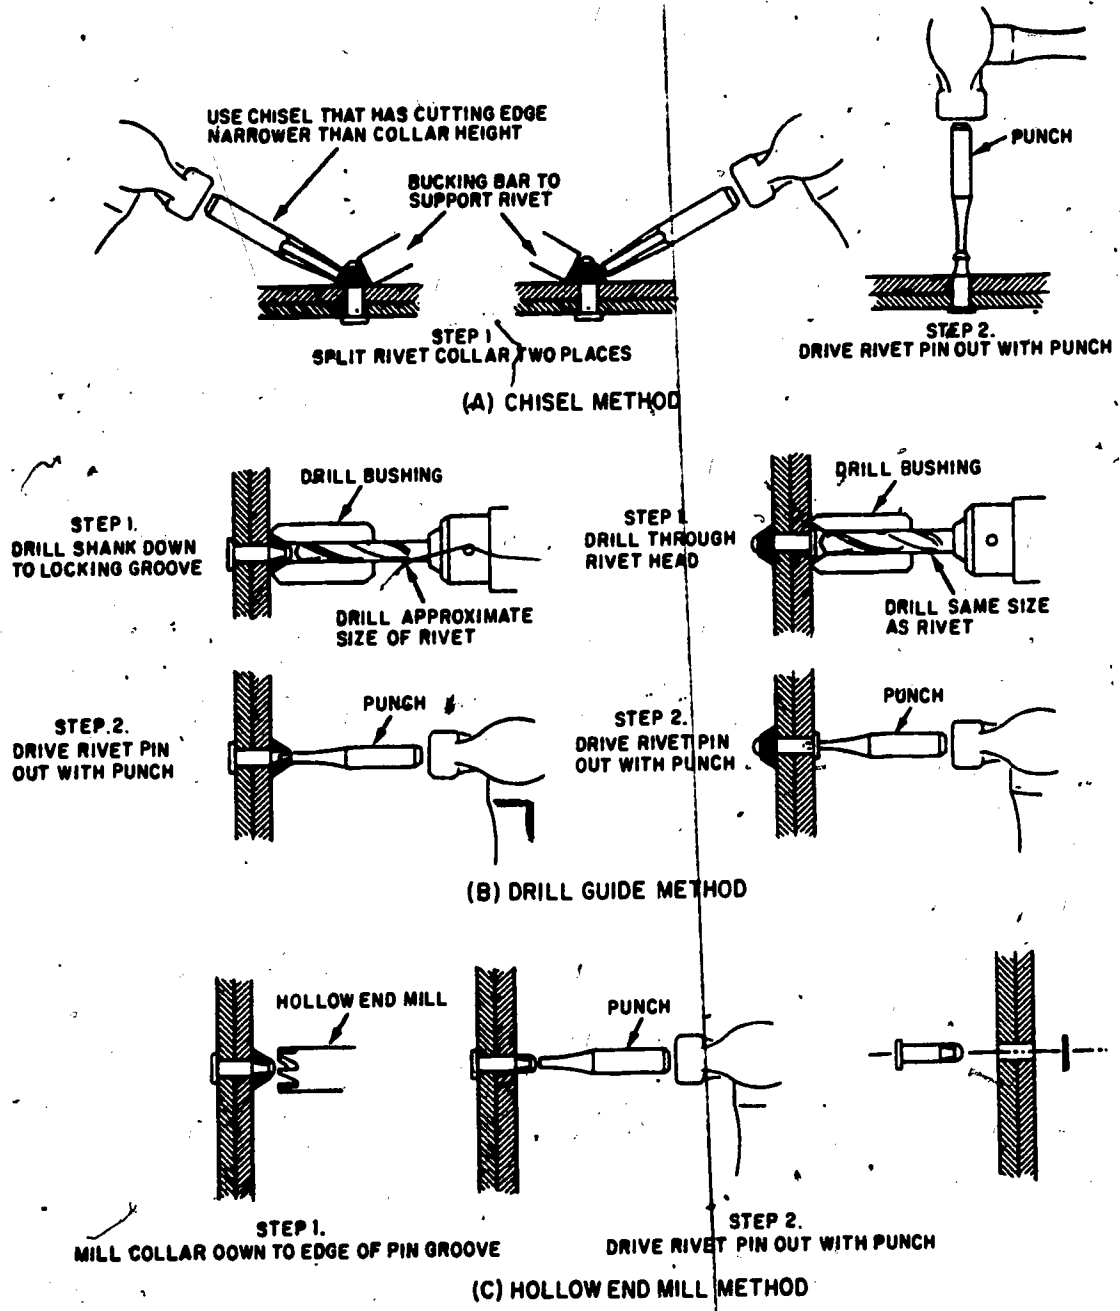

Figure 2-25 - Hi-Shear rivet removal
Hi-Shear rivets may be removed by various methods. However, only some of these methods are recommended as the others may increase the possibility of damaging the parts. Cutting the collar off with a chisel or other sharp tool should be done only where other methods are not practical and the structure is fairly rigid. (See (A) figure 2-25.) You must take special care to prevent damage to the part or to the hole. The use of a drill guide is recommended in drilling out a Hi-Shear rivet. (See (B) figure 2-25.) The base of the guide has a conical surface which fits over the driven collar. Use a drill with a diameter approximately equal to the rivet diameter to drill the shank end of the rivet down to the locking groove. The rivet is then driven out with a small punch. When absolutely necessary, the head of the rivet may be drilled out, but you should use a guide on protruding head rivets.
A collar removal tool, consisting of a hollow end mill, may also be used to remove the collar. (See (C) figure 2-25.) The rotating cutter is applied to the collar until a sufficient amount of collar material has been removed to permit a sharp tap of a hammer to drive out the pin. A stop prevents the cutter teeth from contacting and damaging the work surface.
Lockbolt collars may be removed by various methods. In general the procedure is the same as for removing Hi-Shear rivets. (See figure 2-25.) Cutting the collar off with a chisel should be done only where the structure is fairly rigid.